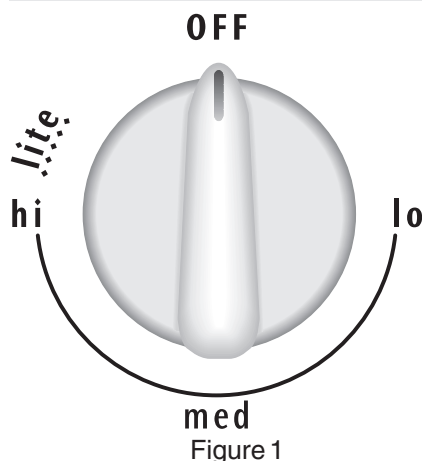

Figure 1
3. Release the knob and rotate to the LITE position (see figure 1). Note: All four electronic surface igniters will spark at the same time. However, only the burner you are turning on will ignite.